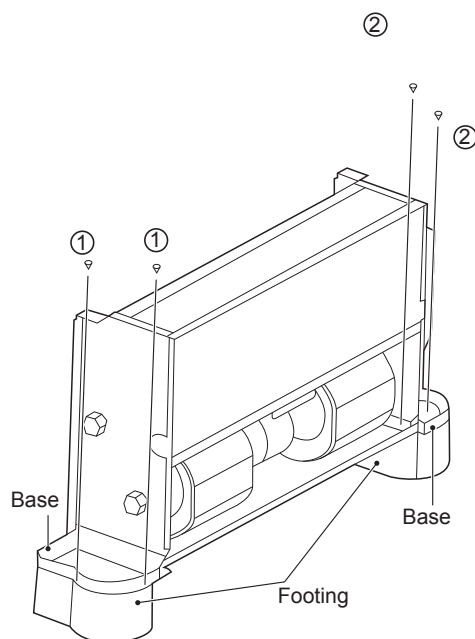

Figure 5-3
The footings shown in Figure 5-3 are optional. You can purchase them separately and install them as follows:
2. Place the mounting holes on the unit base into the corresponding footing locating pin and install screws ①*2 and ②*2 to fix the footing according to Figure 5-3.